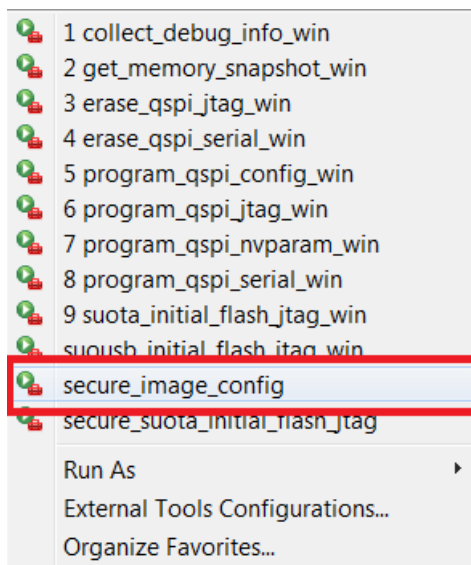

Figure 50: secure_image_config Python script
3. Use `secure_image_config.py` Python script as show in Figure 50. Answering on few questions will be required during script execution as shown in next figures.